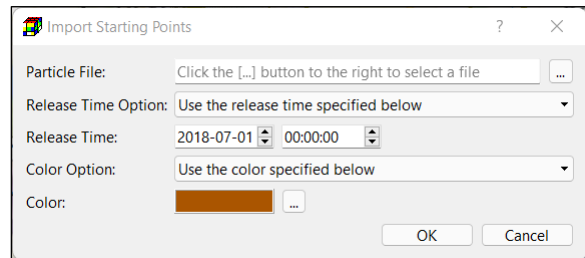

Figure 171. The Import Particles dialog box
3. **Import Starting Points:** This will display the Import Starting Points dialog box (Figure 171) that assists you to import starting points (particles). This dialog box has the following features.